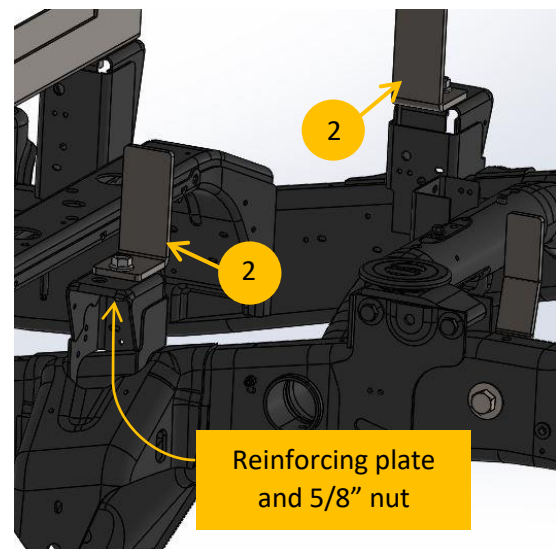

Figure 5
4. Place the center level lok brackets (**ITEM 2**) on each of the center bed risers parallel to the bed risers and use two (2) 5/8" x 1-3/4" bolts (**ITEM 6**), two (2) reinforcing plates (**ITEM 5**) and two (2) 5/8" nyloc nuts (**ITEM 7**) and tighten them to the bed risers. **Figure 5**